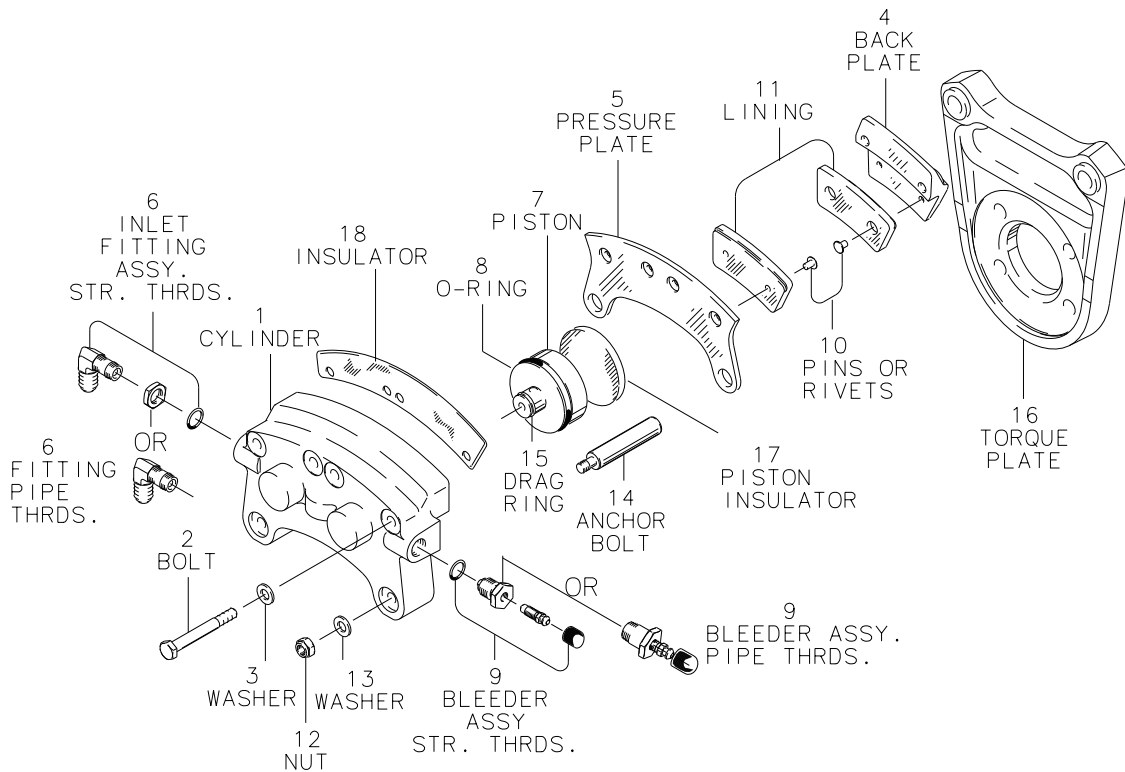

Figure 2 - Typical External Disc Brake Assembly
The brake is an external caliper-type design. The cylinder (1), Ref. Figure 2, is a cast aluminum or magnesium housing. The pistons (7) are contained by the cylinder and form a pressure vessel for the brake fluid. Two anchor bolts are press fitted into the cylinder and are retained with nuts (12) and washers (13). The pressure plate (5) is held in position by the two anchor bolts. Back plate (4) is secured to the cylinder with bolts (2) and washers (3) on the opposite side of the brake disc. The back plate and pressure plate each hold brake linings (11). The cylinder is allowed to slide or float in torque plate (16) bushings. The torque plate is mounted to the landing gear axle. The caliper (cylinder assembly) is the assembly which includes the cylinder, pistons, back and pressure plates, linings, and other related components. Back plate to cylinder insulator shim (18) and piston to pressure plate insulator disc (17) are typically found on calipers that use the metallic based lining only. Specific illustrated parts breakdown for brake assemblies may be found in the product catalog.